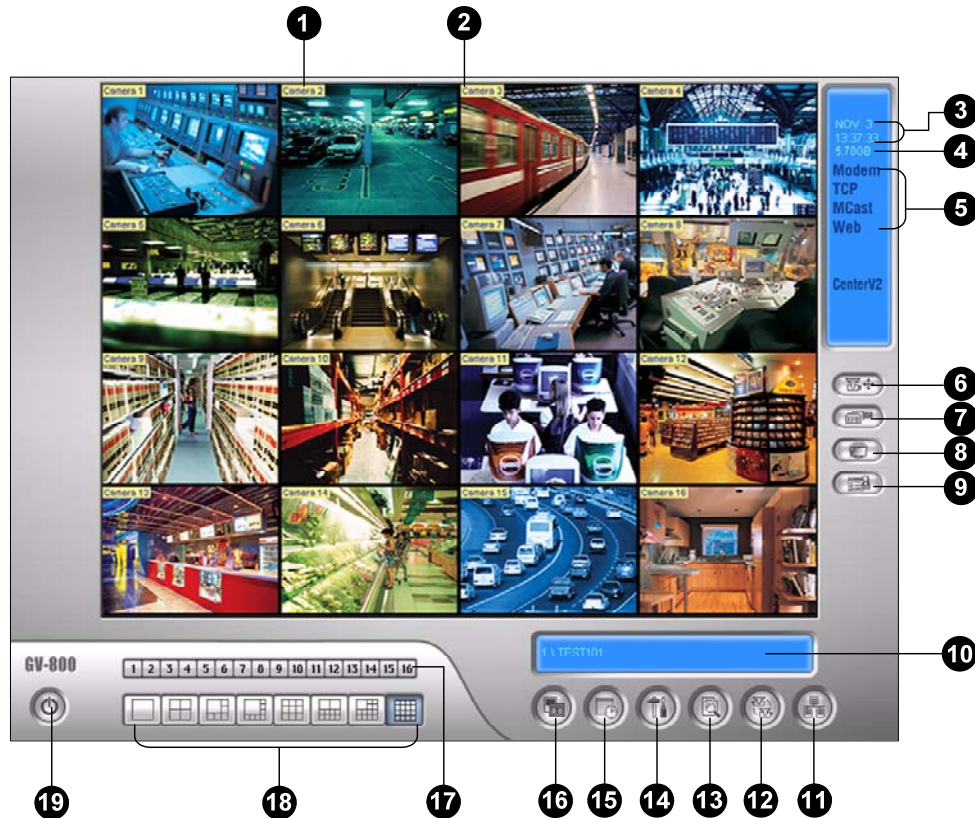

Figure 1-2
Click the **Configure** button (No.14, Figure 1-2), point to **General Setting** and select **System Configure**. You may configure cameras and global recording parameters in this dialog box. Changes made to the **General Setting** tab would apply to all available cameras attached to the system. In the **Camera Record Setting** tab, you can configure each individual camera. In the **I/O Device** tab, you can add and configure I/O devices. In the **HotLine/Network** tab, you can configure the system for connection to network or mobile.
- ⊙ **Monitor All:** Allows you to monitor all cameras and I/O (if available) at system startup. It is the same as to manually click **Monitor** button (No. 16, Figure 1-2) and select **Start All Monitoring**. (For details, see *Start/Stop Monitoring* later in this chapter).
- ⊙ **Schedule Monitor:** Allows you to monitor cameras by schedule. Alternatively you may click **Schedule** button (No. 15, Figure 1-2) and select **Schedule Start**. Refer to *Recording Schedule* later in this chapter.
- ⊙ **I/O Monitor:** Allows you to monitor all I/O devices. Alternatively you may click the **Monitor** button (No. 16, Figure 1-2), and then select **I/O Monitoring**.
- **WebCam Server:** Allows connection to WebCam Server at startup. (Or click the **Network** button (No. 11, Figure 1-2) and select **WebCam Server**.)
- **Connect to VSM:** Allows connection to VSM Server (Or click the **Network** button (No. 11, Figure 1-2) and select **Connect to VSM**.)
- **Twin Server:** Allows connection to Twin Server at startup. (Or click the **Network** button (No. 11, Figure 1-2) and select **Twin Server**). For more details, see *Twin DVR System* in Chapter 11.
- **Connect to CenterV2:** Allows connection to CenterV2. (Or click the **Network** button (No. 11, Figure 1-2) and select **Connect to CenterV2**.)
1. Click the **Configure** button (No.14, Figure 1-2), point to **General Setting**, and then select **System Configure**.
4. To switch between the mini and normal view, click the **Configure** button (No.14, Figure 1-2), point to **A/V Setting** and select **Mini-View Switch**.